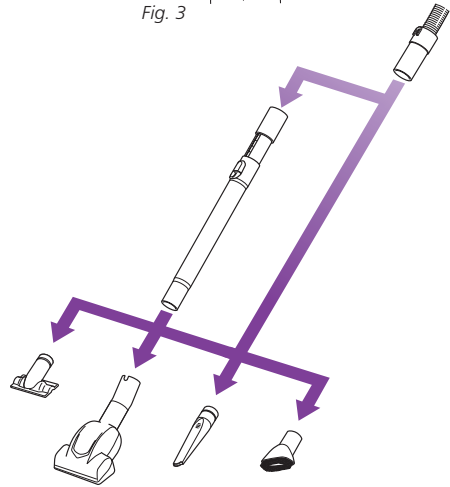

Fig. 6
- 6 Insert the telescopic tube to the flexible hose. Push it in until it is secure. (**fig. 6**)
- 7 Attach the desired accessory to the end of the flexible hose or telescopic tube by pushing it in until it is tightly secured. (**fig. 6**)